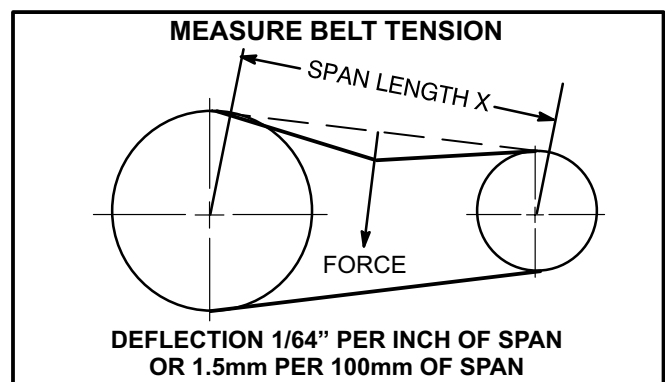

FIGURE 14
- 1- Measure span length X. See figure 14.
- 2- Apply perpendicular force to center of span (X) with enough pressure to deflect belt  $1/64$ " for every inch of span length or 1.5mm per 100mm of span length.